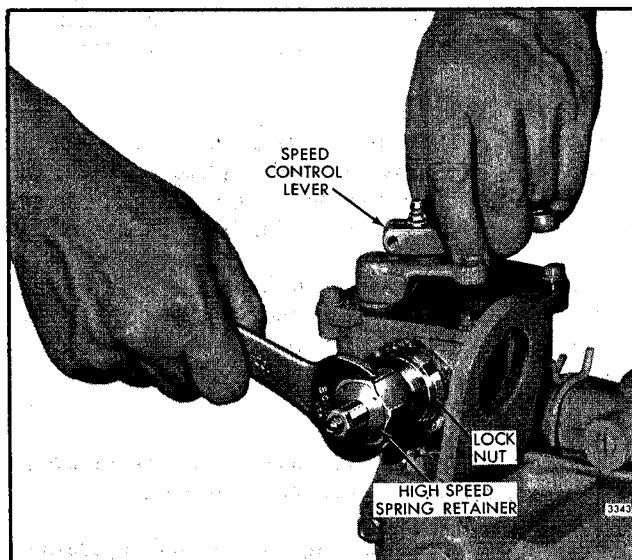

Fig. 3 - Adjusting Maximum No-Load Engine Speed
1. Loosen the lock nut and back off the high speed spring retainer approximately five turns.(Fig. 3).